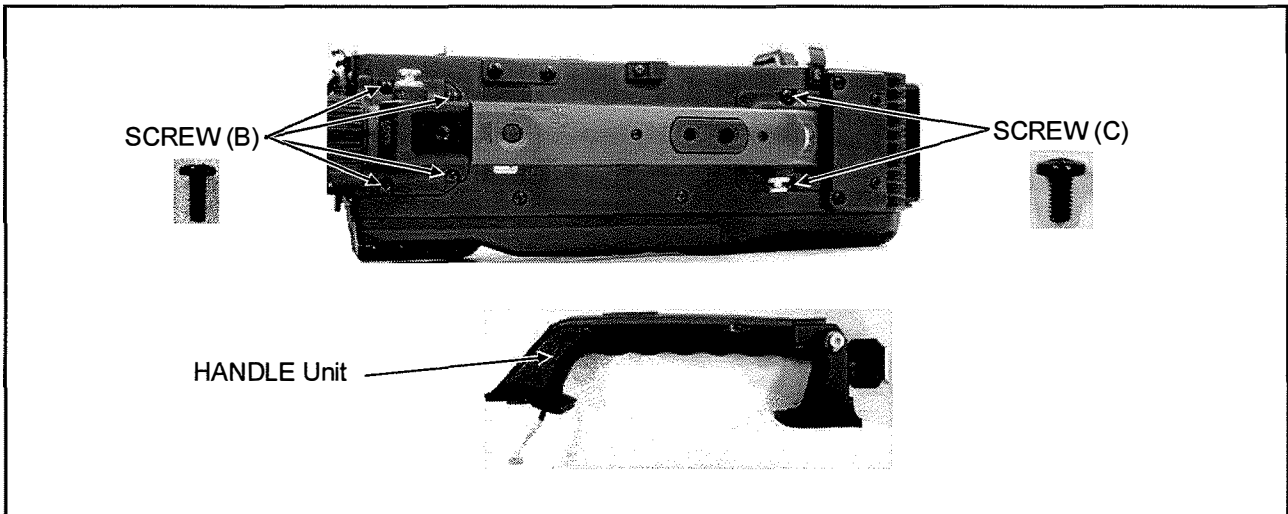

Figure 14-3
5. Unscrew the 4 screws (B) and 2 screws (C) as shown in figure 14-3, and remove the HANDLE Unit.
3. Tighten the screw (B) with [$110 \pm 5\text{cN}\cdot\text{m}$ ($11.2 \pm 0.5\text{kg}\cdot\text{cm}$)] of torque and tighten the screw (C) with [$80 \pm 5\text{cN}\cdot\text{m}$ ($8.2 \pm 0.5\text{kg}\cdot\text{cm}$)] of torque as shown in figure 14-3, when you assemble the HANDLE Unit to MAIN FRAME.